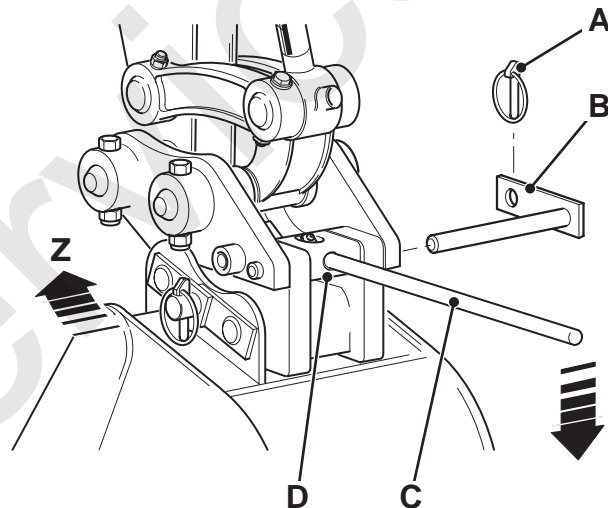

Fig 108.
- 4 Apply a downward pressure on the bar to release the buckets' rear pivot pin from the latch hook, ⇒ Fig 108. \(□ 272\) at Z. Remove the tommy bar from the Quickhitch.